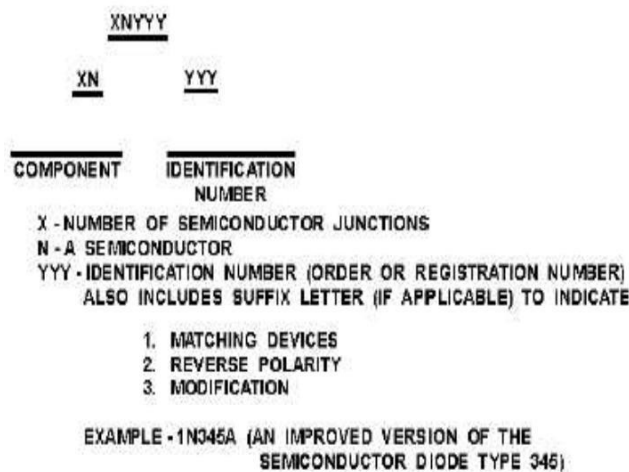

Fig. 4: Identification of Diode
There are many types of diodes varying in size from the size of a pinhead (used in sub miniature circuitry) to large 250-ampere diodes (used in high-power circuits). Because there are so many different types of diodes, some system of identification is needed to distinguish one diode from another. This is accomplished with the semiconductor identification system shown in Fig. 4. This system is not only used for diodes but transistors and many other special semiconductor devices as well. As illustrated in this figure, the system uses numbers and letters to identify different types of semiconductor devices. The first number in the system indicates the number of junctions in the semiconductor device and is a number, one less than the number of active elements. Thus 1 designates a diode; 2 designates a transistor (which may be considered as made up of two diodes); and 3 designates a tetrode (a four-element transistor). The letter "N" following the first number indicates a semiconductor. The 2- or 3-digit number following the letter "N" is a serialized identification number. If needed, this number may contain a suffix letter after the last digit. For example, the suffix letter "M" may be used to describe matching pairs of separate semiconductor devices or the letter "R" may be used to indicate reverse polarity. Other letters are used to indicate modified versions of the device which can be substituted for the basic numbered unit. For example, a semiconductor diode designated as type 1N345A signifies a two-element diode (1) of semiconductor material (N) that is an improved version (A) of type 345.